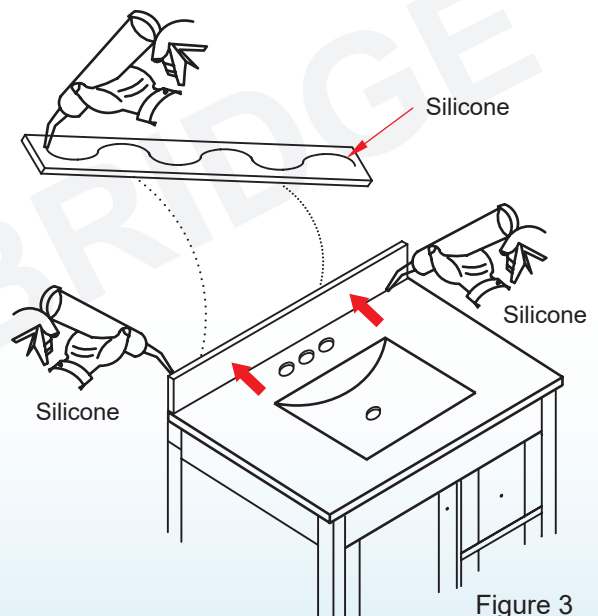

Figure 3
- 5) Place the backsplash centered on the vanity top with its back side pressed firmly against the wall. Figure 3.
- 6) Run a small bead of silicone along the backsplash edges where it meets the wall and vanity top and smooth the bead with a wet cloth or finger. Figure 3.